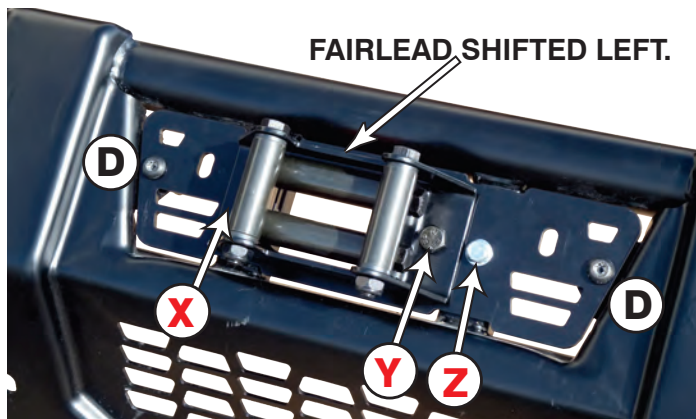

Figure 6.
7. Install replacement grill to bumper as shown in Figure 6 using original Torx screws (D), do not fully tighten! Grill must be oriented with the two bolts shown in Figure 6 (Y & Z) to the right (driver side).
8. Install your fairlead to grill & bumper assembly as shown in Figure 6, using hardware provided with your winch. Pass bolt (X) through fairlead, grill and bumper frame rails, then tighten. Install bolt (Y) directly to the grill & fairlead. Use one 5/16" Hex Bolt and Flange Nylock Nut from hardware kit to fasten grill to bumper frame at location (Z).